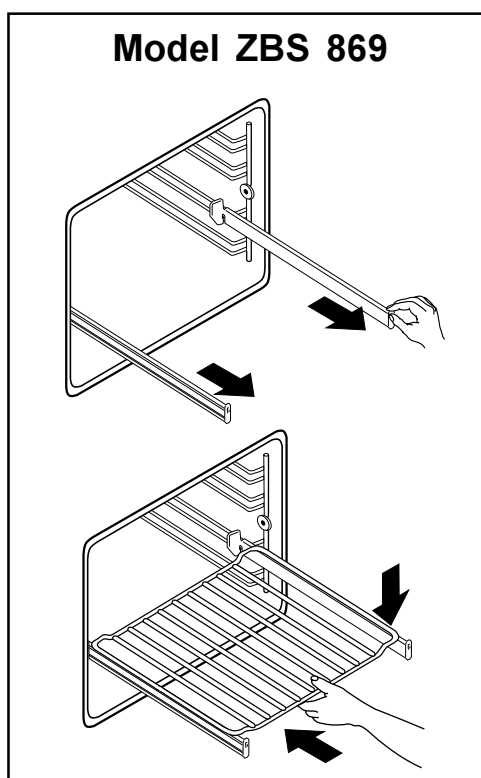

Fig. 6
### Telescopic shelf supports (fig. 6)
- Pull the right and left hand telescopic shelf supports completely out, as shown in fig. 6.